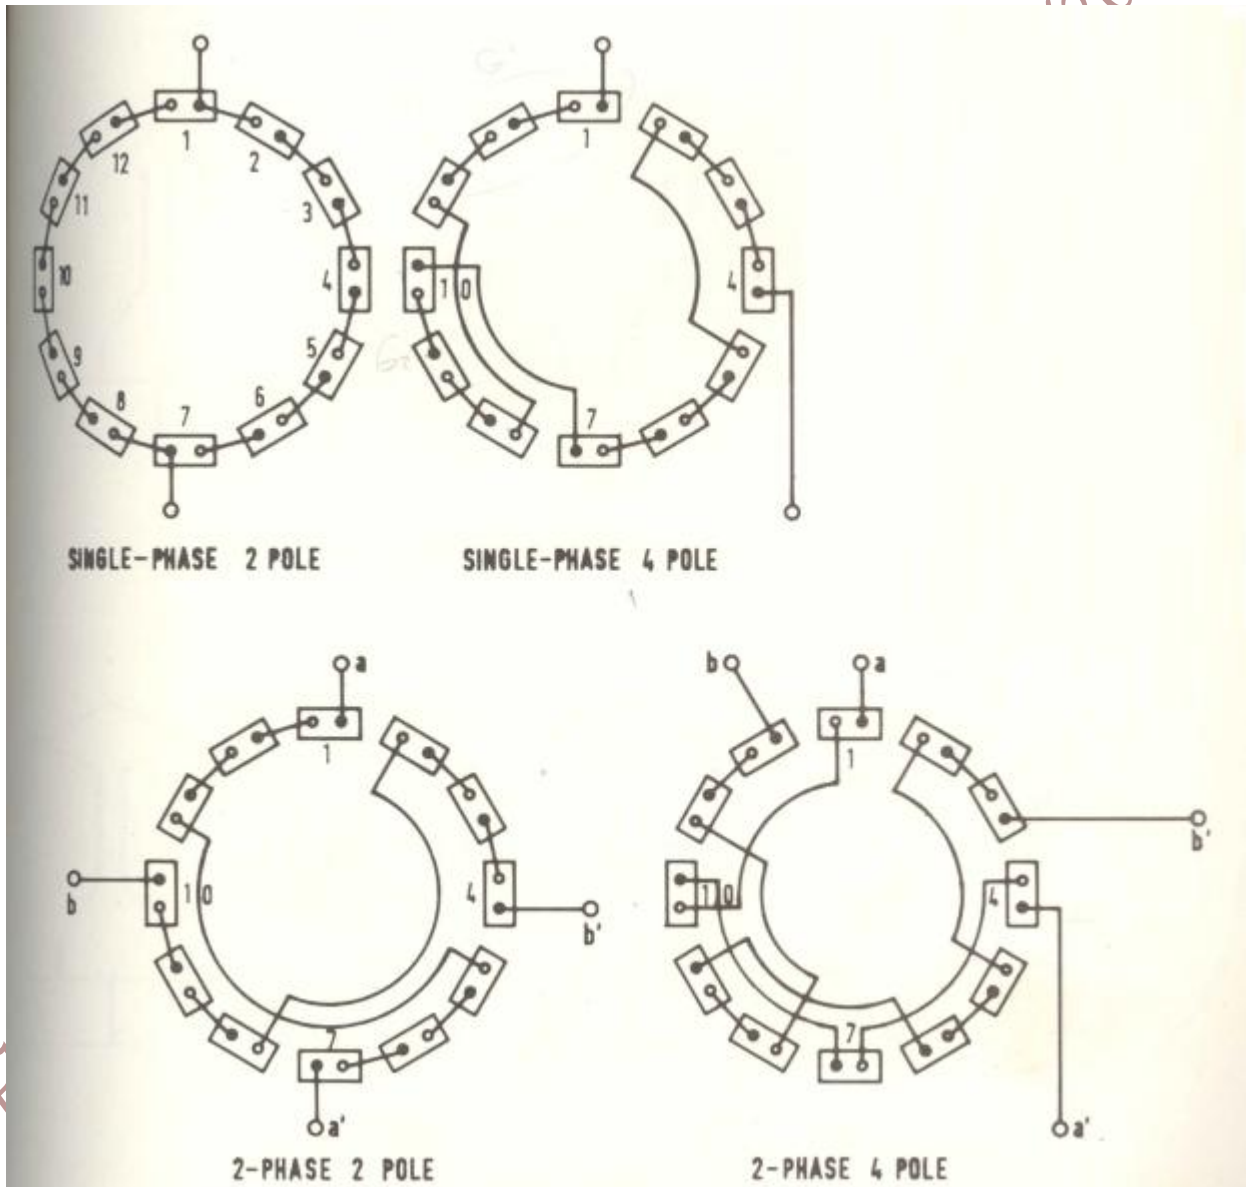

Figure 3
1. Make the first connections in Figure 3
3. Repeat the previous procedure for the other connections in Figure 3